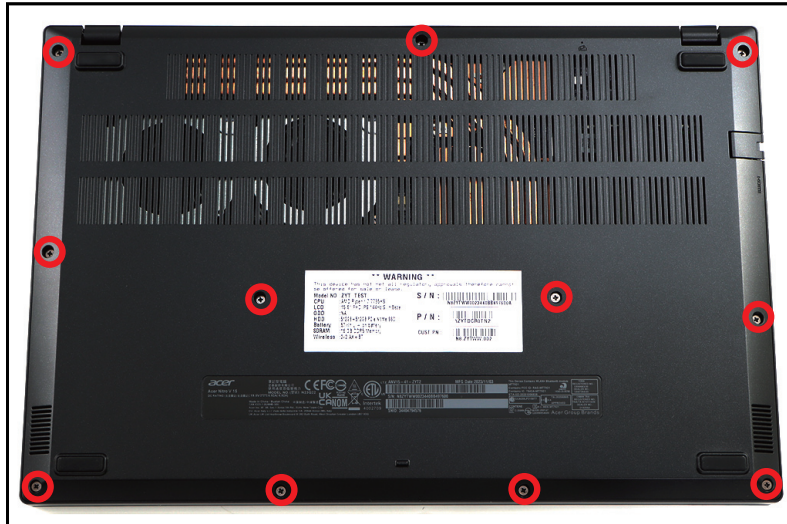

Figure 1-2. Base Cover Removal
1. Remove eleven (11) screws from the base cover (Figure 1-2).